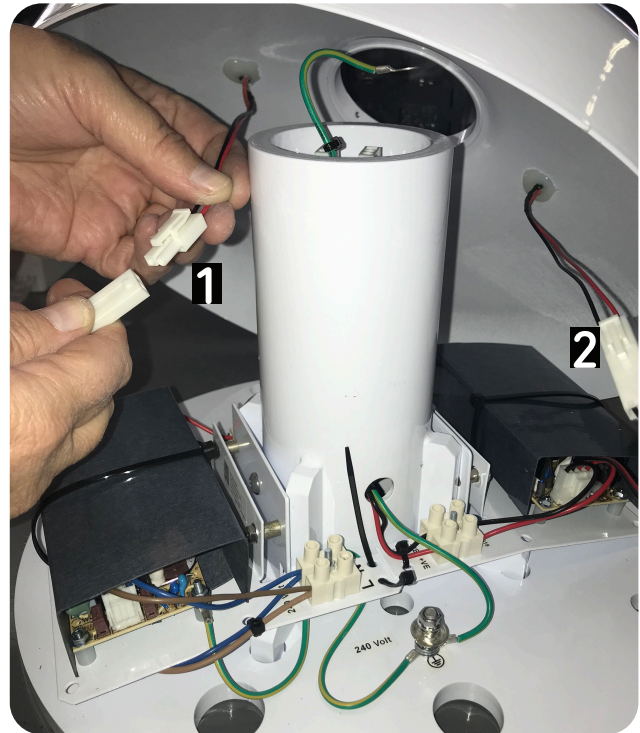

Fig. 7
1. Reconnect the 2 indicator light 2-way plugs with the ceiling cover. (Fig. 7)